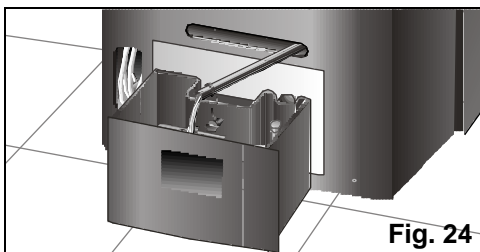

Fig. 24
- ❑ Before tilting it, empty the condensed water from the internal tank by extracting the water drainage pipe from its housing and removing the plug, **Fig. 24**. Place a receptacle (or the appliance's removable tank) at the end of the water drainage pipe to collect the condensed water or lead the pipe to the nearest drain. Do not forget to replace the plug and reinsert the pipe in its housing when the tank is empty.